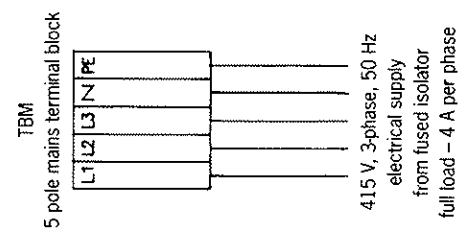

Fig. 7
5. Supply air fan. A single belt driven fan provides air supply through the unit. An adjustable sheave is used on the fan motor so that the  $m^3/s$  (cfm) rating can be adjusted. (see Fig. 7 and fan performance tables). Model 55 uses a 47.3 in 'A' section belt. Model 70 uses a 54.3 in 'A' section belt.